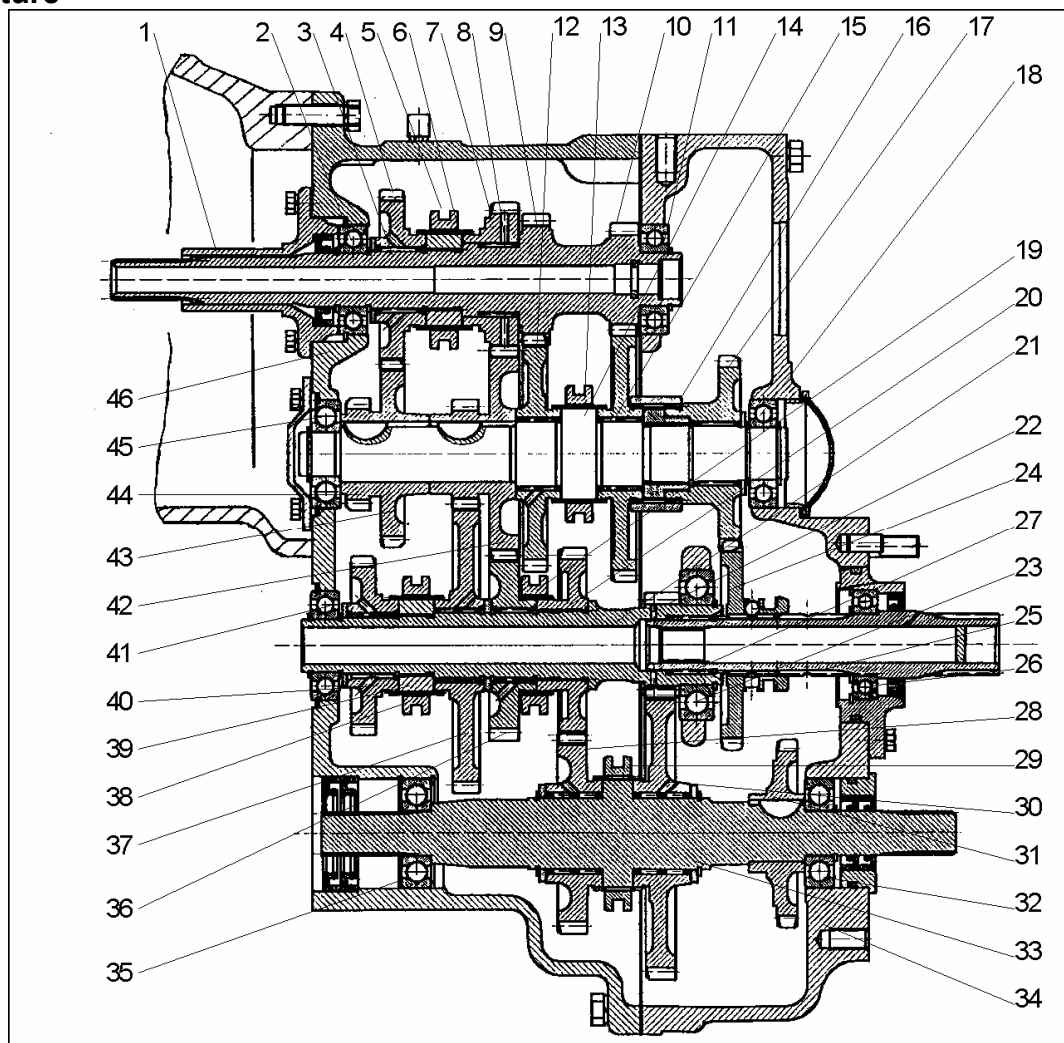

Fig. F-20. Gearbox.
8. GERABOX (Fig. F-20)
The changeover of the gears I., II., III., and IV. is realised with the lever 10 (Fig. F-21), which through the shifters 7, 8 operates forks 6 and 9 mounted to the shifters with screws; the forks dislocate tooth clutches 6,13 (Fig. F-20) seated on shaft splines 1, 14. Gear range switchover (two ranges forward and one rearward) is realised with help of the lever 5 (Fig. F-21), which through the shifters 2, 4 operates forks mounted to the shifters with screws; the forks dislocate tooth clutches 19, 38 (Fig. F-20). The I. forward gear range and rear gear range are switched on with the tooth clutch 38. The II. forward gear range is switched on with the tooth clutch 19.
PTS drive switchover (dependent / independent) is realised with the lever 13 (Fig. F-21), which operates the toothed wheel 24 (Fig. F-20) causing its shift to one of three possible positions:
Switchover of the gear reduction unit is performed with the shifter 14 (Fig. F-21) fitted with forks 16, which shift the tooth clutch 29 (Fig. F-20), switching on accelerating (left position of the toothed clutch) or decelerating reduction gear transmission ratio.